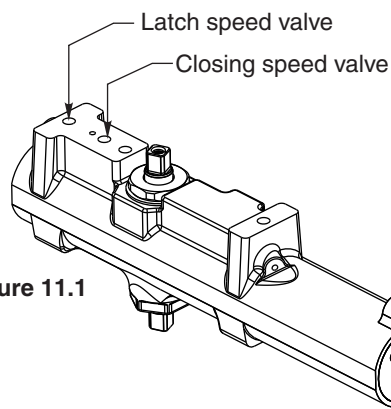

Figure 11.1
- Using hex wrench provided, turn closing speed and latch speed valves clockwise (CW) until seated (DO NOT OVER TIGHTEN) Figure 11.1